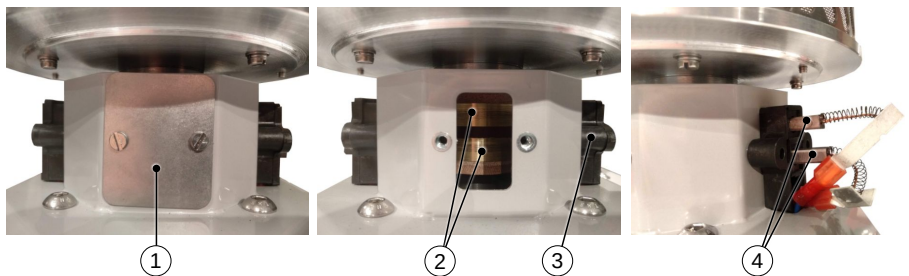

Figure 10: Brush unit maintenance
2. Remove two screws that hold the hatch (pos.1 Fig.10); remove the hatch.
3. Inspect the slip rings (pos.2 Fig.10) for bumps and color changes. The rings should fit closely to insulators and should not show excessive wear.
6. Remove two screws to open the brush unit (pos.3 Fig.10)
7. Take out two carbon electrodes (pos.4 Fig.10).